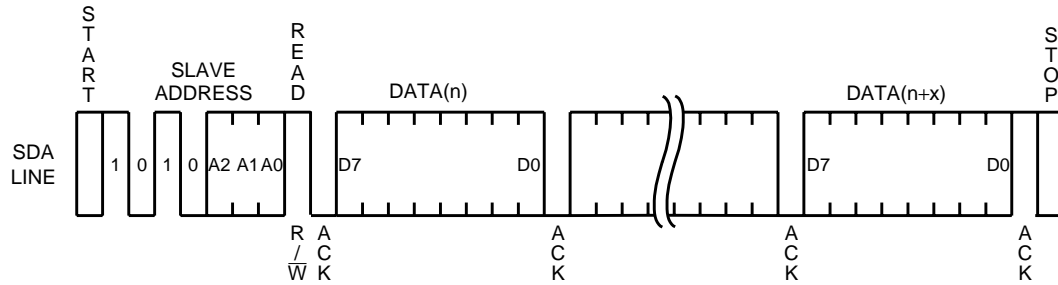

Fig.16
(See Fig.16 to 18 for the sequential read cycles.)
- When an ACK signal LOW is detected after D0 and a stop condition is not sent from the master (μ -COM), the next word address data can be read. [All words all read enabled] (See Fig.16 to 18 for the sequential read cycles.)